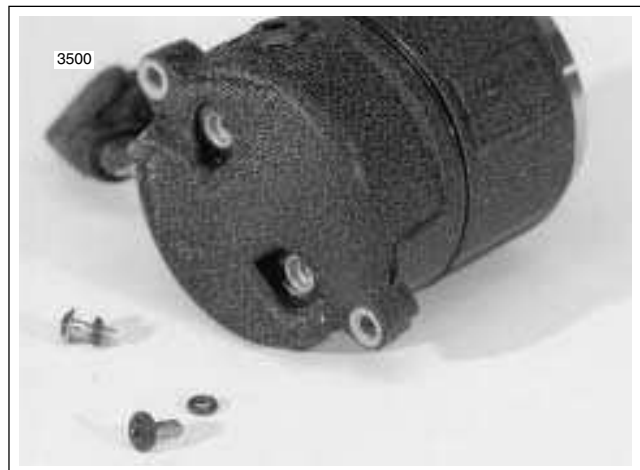

Figure 5-7. Remove End Cap Screws and O-Rings
3. See Figures 5-7 and 5-8. Remove the end cap screws and cap.